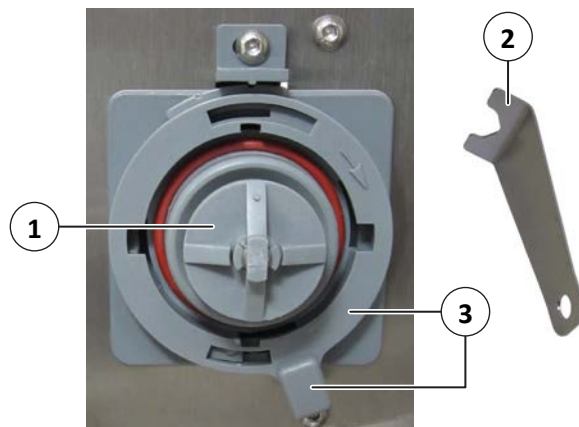

Fig. 46: Removing the mixer wheel
2. Turn it clockwise in the housing up to the position shown in Fig. 46.